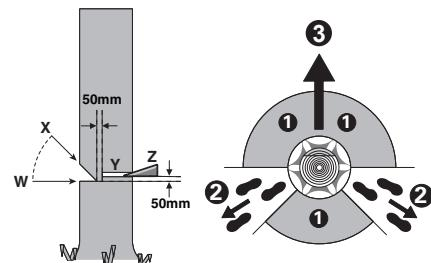

Figure 1
An escape path should be planned and cleared as necessary before cuts are started. The escape path should extend back and diagonally to the rear of the expected line of fall as illustrated in Figure 1.
Make the notch 1/3 the diameter of the tree, perpendicular to the direction of falls as illustrated in Figure 1. Make the lower horizontal notching cut (W) first. This will help to avoid pinching either the saw chain or the guide bar when the second notch (X) is being made.
Make the felling back cut (Y) at least 50 mm higher than the horizontal notching cut as illustrated in Figure 1. Keep the felling back cut parallel to the horizontal notching cut. Make the felling back cut so enough wood is left to act as a hinge. The hinge wood keeps the tree from twisting and falling in the wrong direction. Do not cut through the hinge. As the felling gets close to the hinge, the tree should begin to fall. If there is any chance that the tree may not fall in desired direction or it may rock back and bind the saw chain, stop cutting before the felling back cut is complete and use wedges of wood, plastic or aluminium (Z) to open the cut and drop the tree along the desired line of fall (③).
When the tree begins to fall remove the Chainsaw from the cut, stop the motor, put the Chainsaw down, then use the retreat path planned (②). Be alert for overhead limbs falling and watch your footing. (See Figure 1)